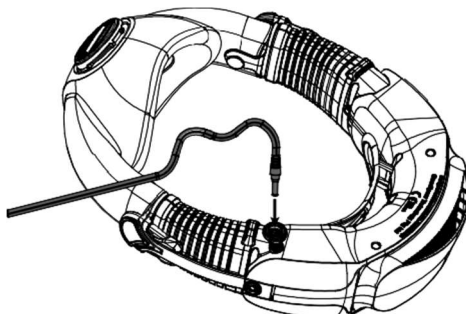

Figure 29 – Charging Port
- To charge the internal battery, turn the respirator upside down, and locate the charging port. See Figure 29.